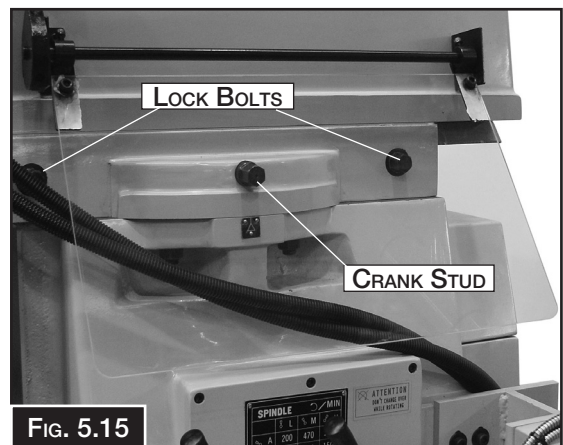

FIG. 5.15
2. Loosen the two lock nuts shown (Fig. 5.15) on the right side of the ram.